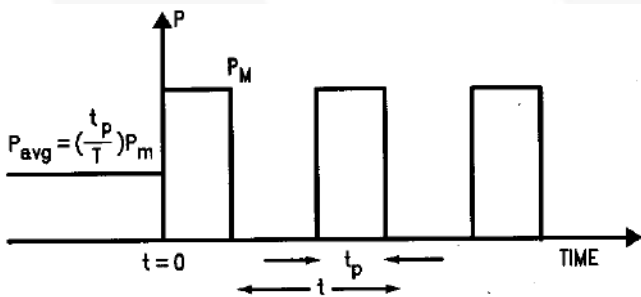
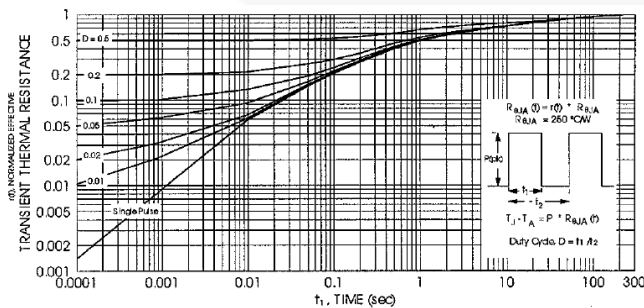

Figure 21. Train of Power Pulses
Figure 22. Normalized  $r(t)$  for NDS351N
The typical use condition is to compute the peak junction temperature at thermal equilibrium for a train of equal amplitude power pulses as shown in Figure 21 and Figure 22.
To further simplify this calculation, the bracketed expression in equation (7) has been plotted for all Fairchild Semiconductor Power MOSFETs, as exemplified by the plot of  $Z_{\theta JC}$  in Figure 22. From this curve, one can readily calculate  $T_J$  if one knows PM,  $Z_{\theta JC}$  and  $T_C$  using the expression:
From Figure 22:  $Z_{\theta JC}=0.14*250^\circ\text{C}/\text{W}=35^\circ\text{C}/\text{W}$